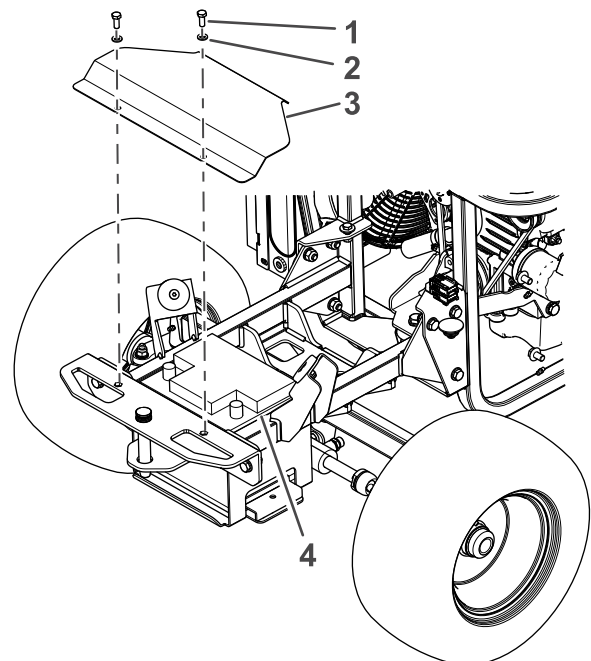

Figure 61
5. Remove the 2 bolts and washers from the battery cover (Figure 61).
6. Remove the battery cover (Figure 61).